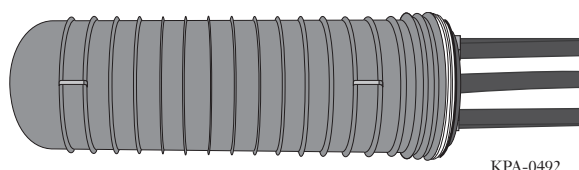

Figure 53 — Slide Dome
- Step 1** Slide the canister over the closure assembly (Figure 53).